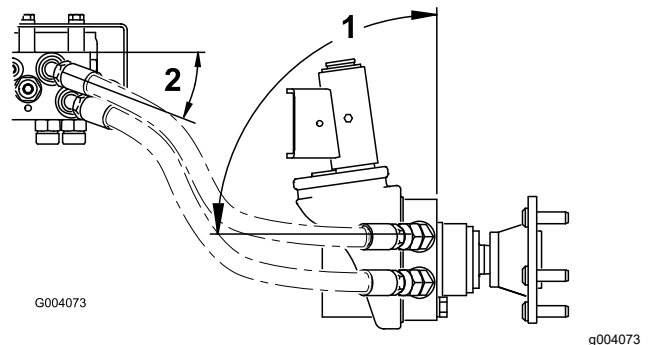

Figure 8
- Repeat the procedure for the right wheel motor. Position the hoses as shown in Figure 8 and tighten all the hose fittings.